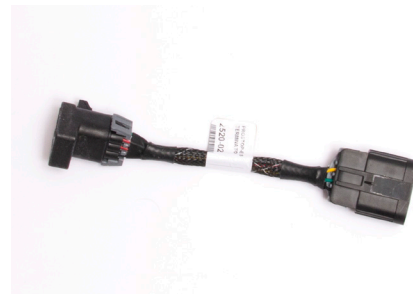

Figure 8: ISOBUS Terminator Cable (2520-0252)
18. Connect the ISOBUS Terminator Cable (2520-0252)(Fig.8) into the mating connector on the last Cannode Tap Cable (2520-0251)(Fig 4).